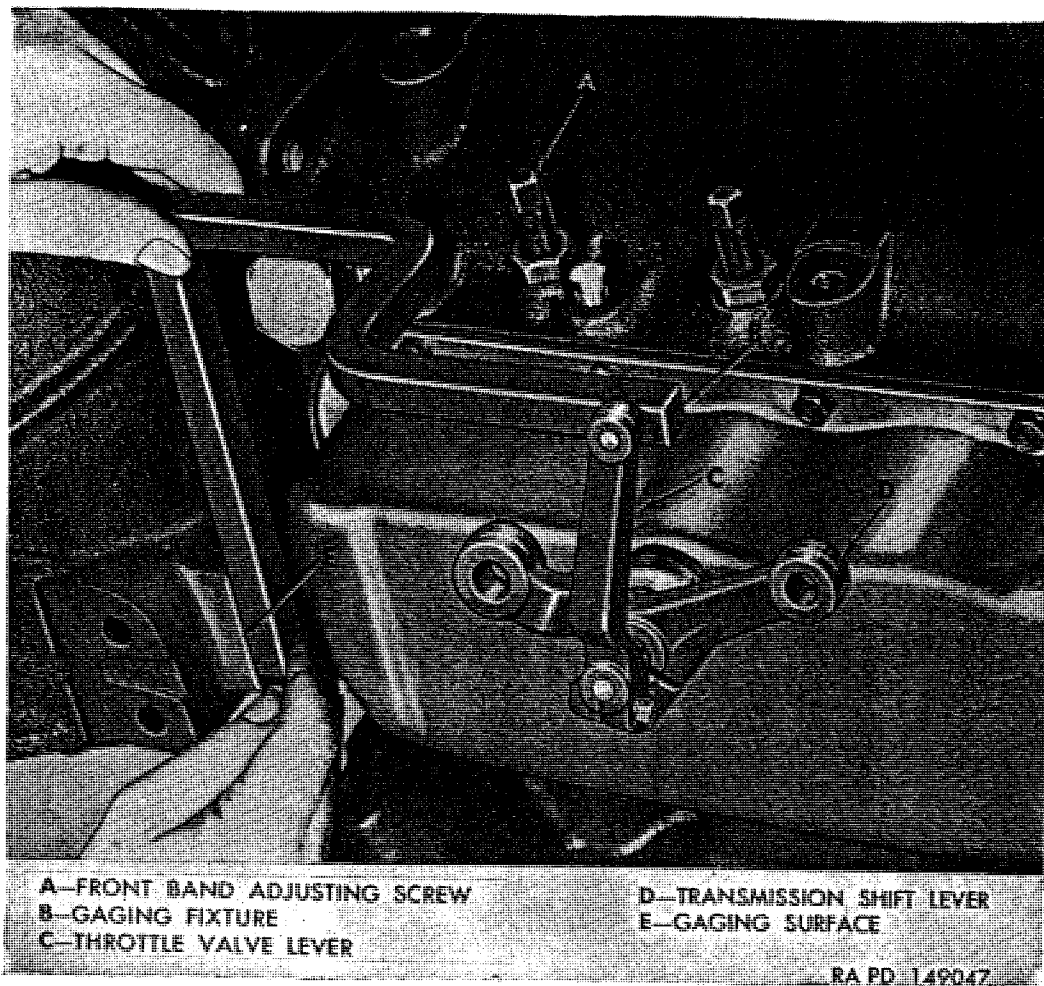

Figure 194. Using gage—B7950168 to adjust throttle valve lever.
- (b) Hold transmission throttle valve lever gage B7950168 against machined surface of fly wheel housing rear half as shown in figure 194. Using clevis pin previously removed, check for free pin in closed position of throttle valve lever (C, fig. 194).
(b) Hold transmission throttle valve lever gage B7950168 against machined surface of flywheel housing rear half (N) as shown in figure 194. Using clevis pin (M) previously removed, check for free pin in closed position of throttle valve lever (L) as shown in figure 194.